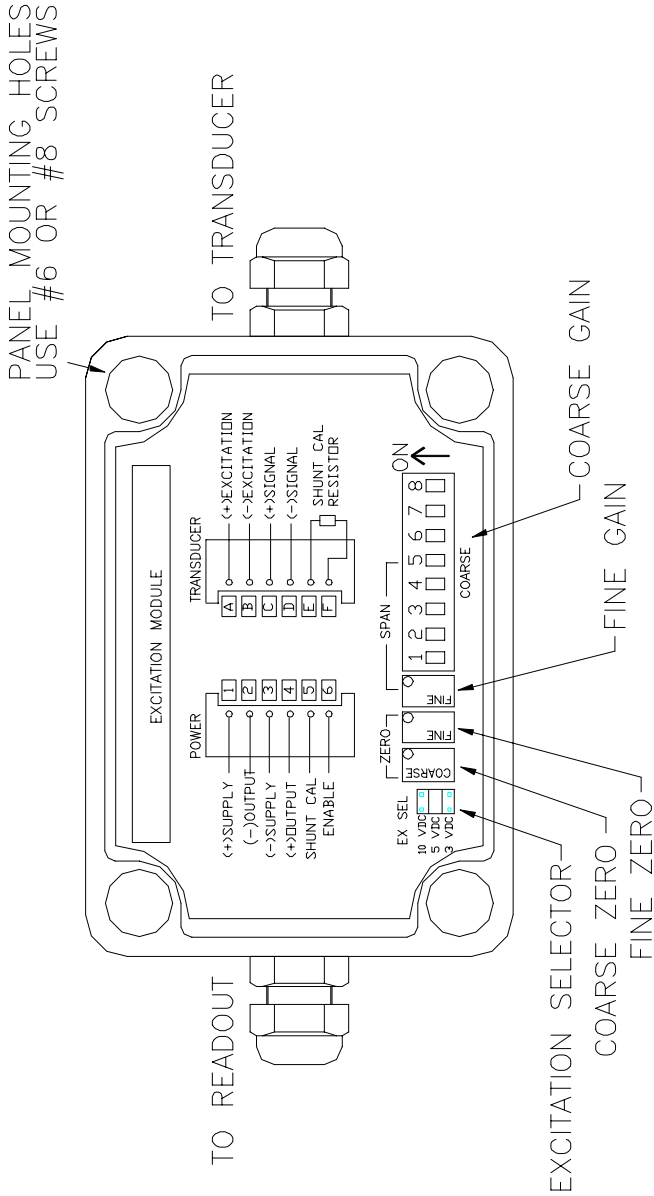

Figure 1-1: Layout of Model UBP-10 In-Line Amplifier
2. Set the EXCITATION SELECT JUMPER as shown below: (See Fig.1-1 for location of jumpers)
4. Set the COARSE GAIN SWITCH (See Fig.1-1 for location of switch) to the nearest mV/V setting in the corresponding excitation column in Table 1.
Step 3. Connect a jumper across PINS 5 & 6 of the power terminals (See Fig. 1-1) or wire in a switch as shown in wiring section. Adjust the SPAN potentiometer to the calculated voltage or calculated units on the readout instrument or voltmeter.